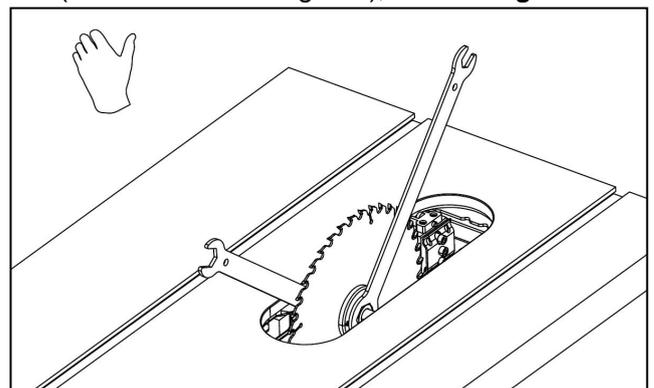

Fig.10
4. Use the included wrenches to tighten the arbor nut (turn clockwise to tighten), refer to Fig.10.